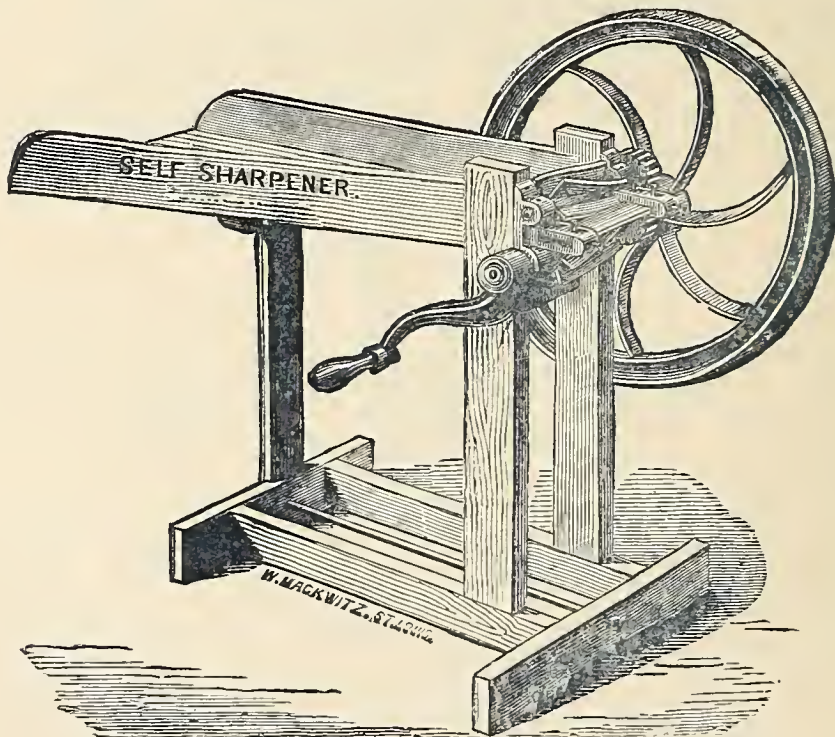

Fig. 443. — Self-Sharpener Feed-Cutter.
**The Self-Sharpener Feed-Cutter**, represented by *Fig. 443*, is an approved cutter; and there is quite a demand for the smaller sizes.